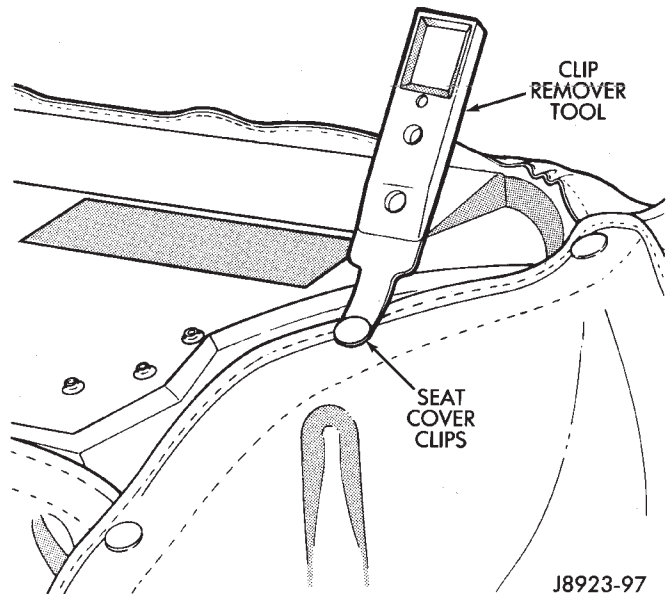

Fig. 17 Seat Cushion Cover Retaining Clip Removal
- (3) Remove the serrated retainers from the front ends of the cover with a trim panel removal tool (Fig. 17).
- (4) Remove the seat cover from the cushion.